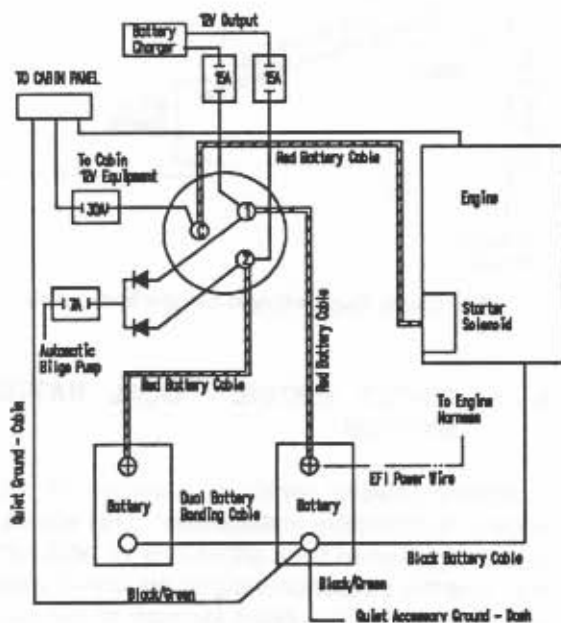

Figure E2: Single Engine-Dual Battery Installation
1. Connect each of the red battery cables leading from the battery selector switch to the positive (+) terminal on each of the two batteries. See Figure E2.